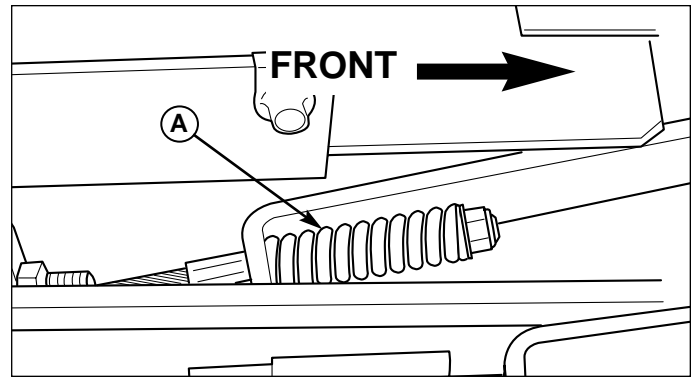

Figure 22. Parking Brake Adjustment
3. Locate the upper brake spring (A, Figure 22).